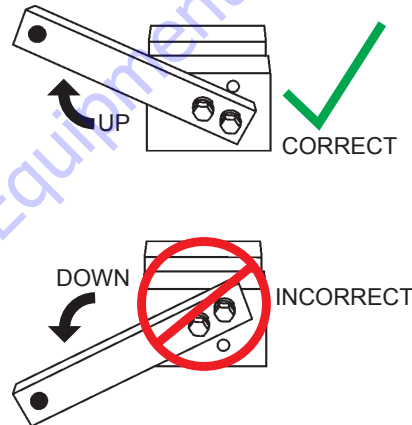

Figure 73. Fixture Arm Position (UP)
2. Make sure the fixture arm is in the **UP** position (Figure 73).